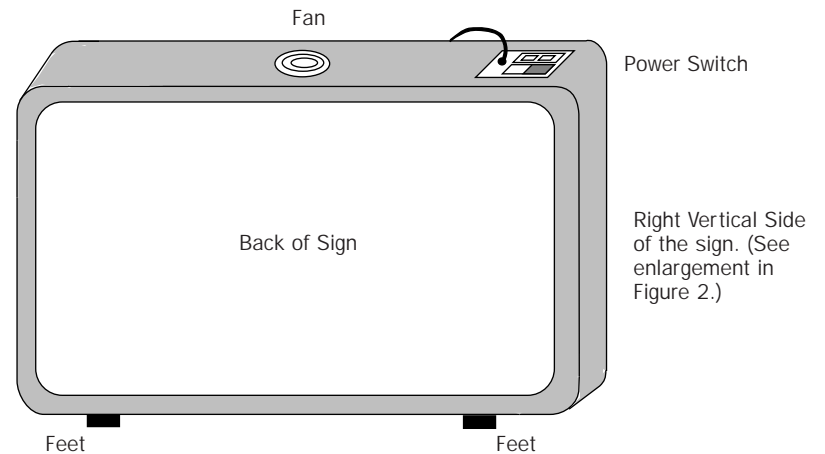

FIGURE 1.
- On a flat, level surface, place the sign on its feet with the back of the sign facing you. Note: the fan and power switch should be facing up. (See Figure 1. below.)
- On the vertical right side of the sign (see figure 1, previous page and 2, below), remove the 6 Phillips pan head screws (round) from the top and bottom of the casing. Then remove the 6 Phillips flat head screws located at the top and bottom of the middle section. DO NOT REMOVE the remaining 6 screws located at the top and bottom of the casing.